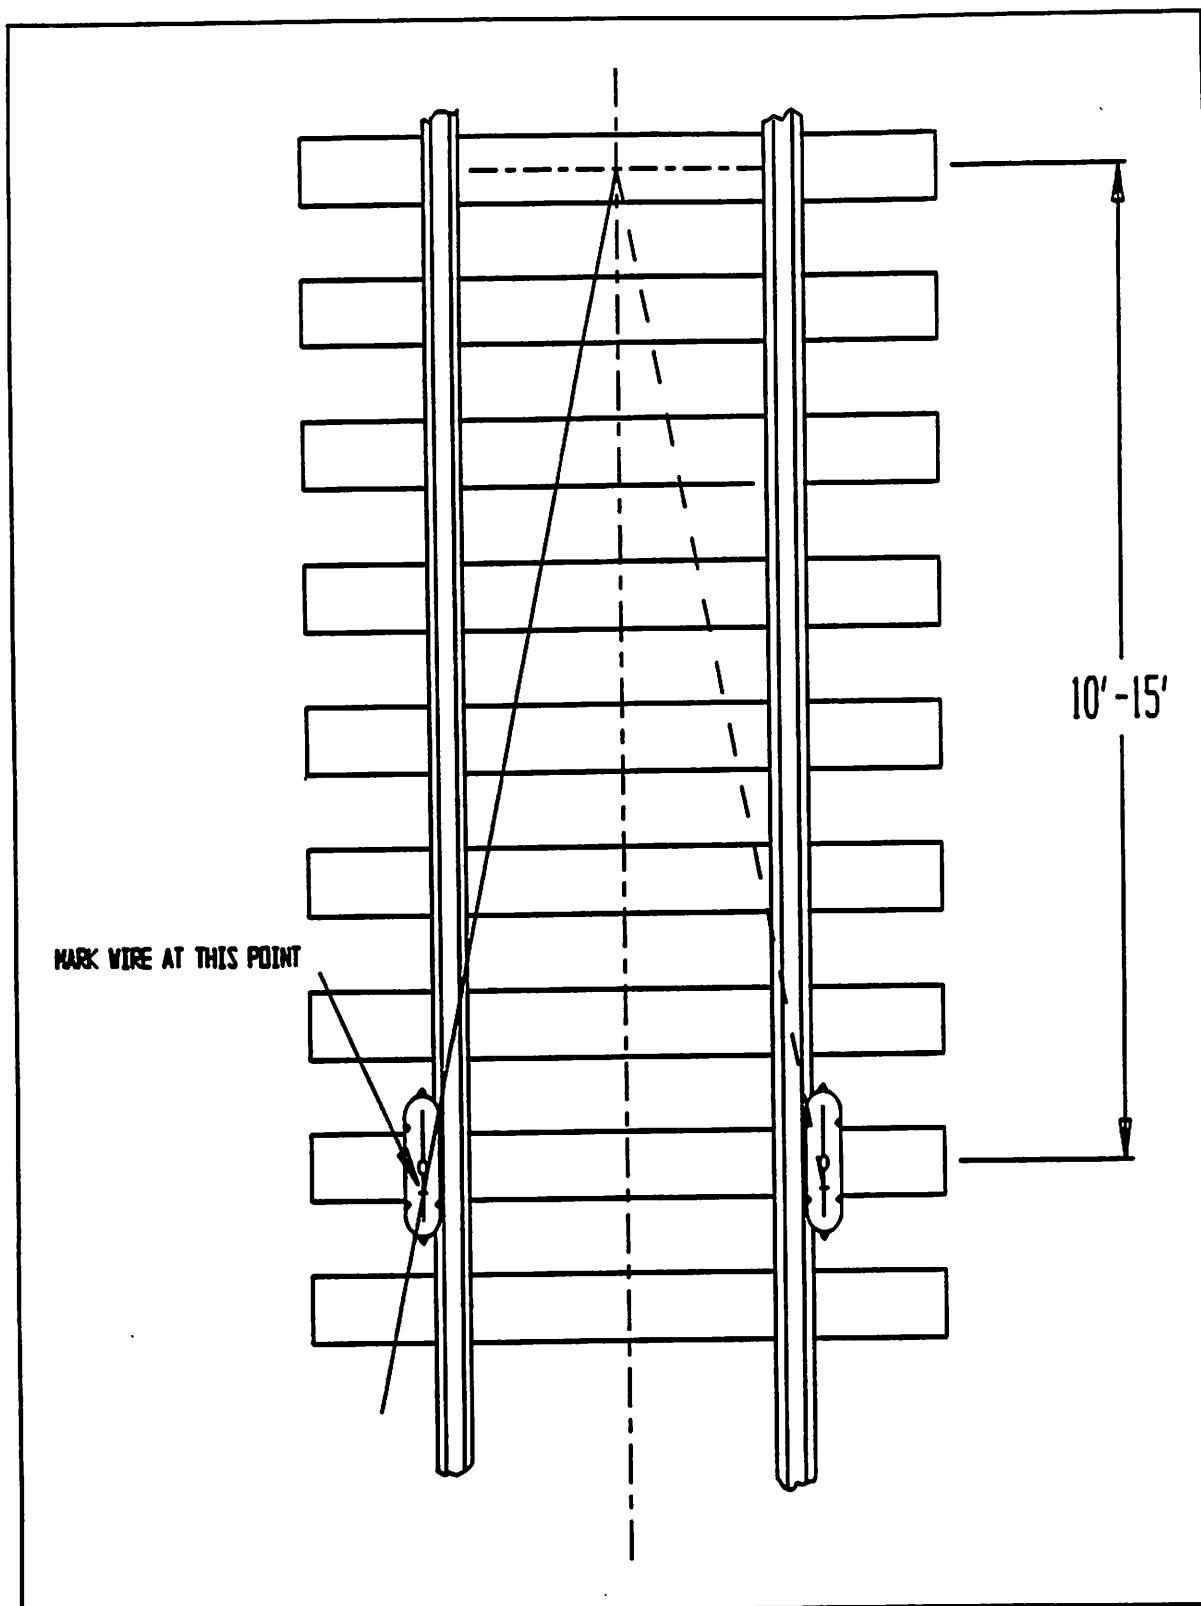

Figure 1 Scanner placement using the triangulation method.
5.9.1.1 Select a tie ten to fifteen feet in front of the tie directly under the scanners. See figure 1 illustrating the triangulation method of scanner placement.